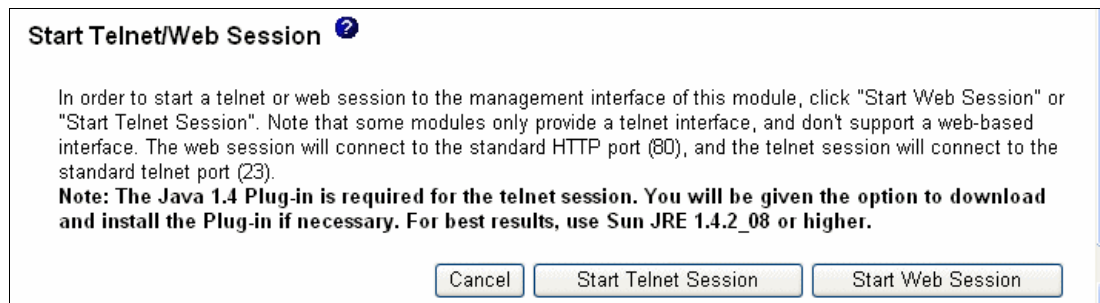

Figure 3-22 Launching Web or Telnet Session from the Management Module
- The remaining steps for configuring the switch module are performed either from the command line interface (CLI), through Telnet, or with Web Tools (through a browser). The Telnet/Web session is accessible from the Management Module window (see Figure 3-22) or you can access it outside the Management Module by using the switch module's IP address.